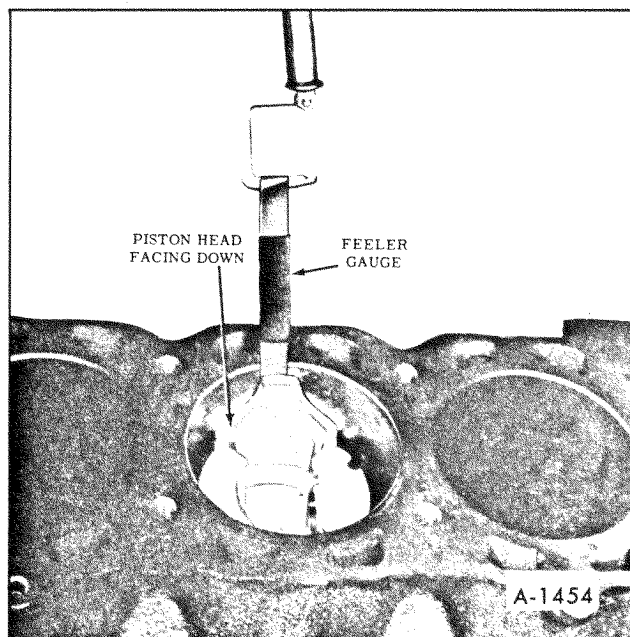

Figure 42—Checking Piston Clearance
1. Place a strip of .0015" feeler gauge against the upper side of the bore, at 90° to the normal piston pin location. Attach a scale which measures in pounds to a feeler gauge. See Figure 42.